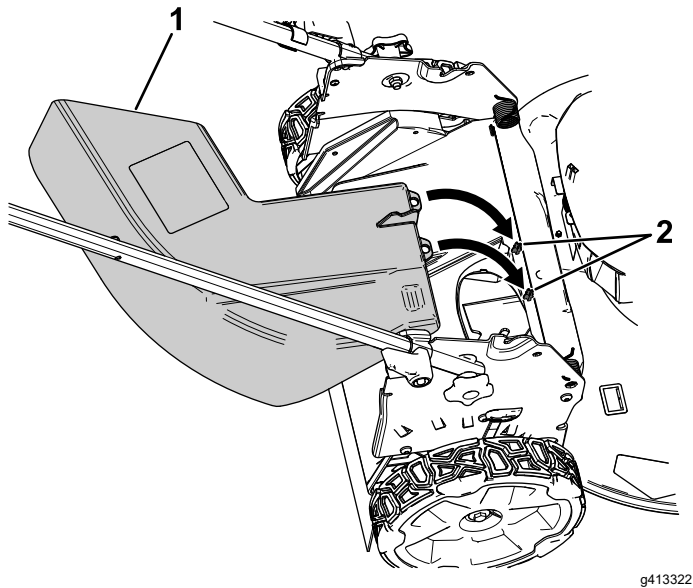

Figure 14
2. Attach the side-discharge chute to the rear of the machine using the attachment points (Figure 14).